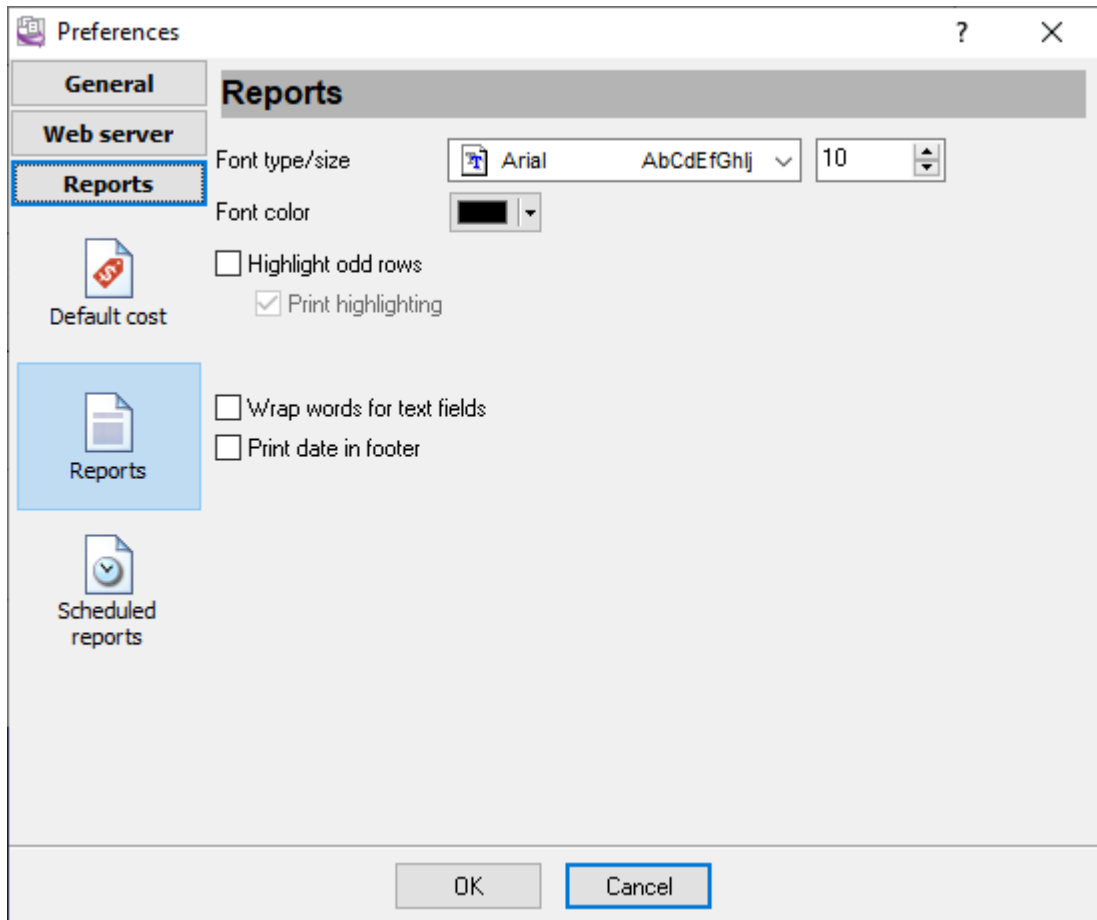

Fig. 17 Report page
2. Change the font that is used in the report and its size. To do it, select "Options - Additional..." and specify the necessary parameters in the new dialog box (fig. 17).